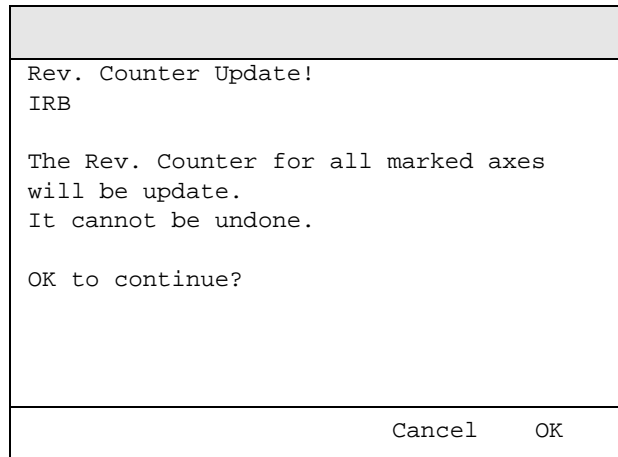

Figure 27 The dialog box used to start updating the revolution counter.
7. Confirm by pressing **OK**. A window like the one in Figure 27 appears.